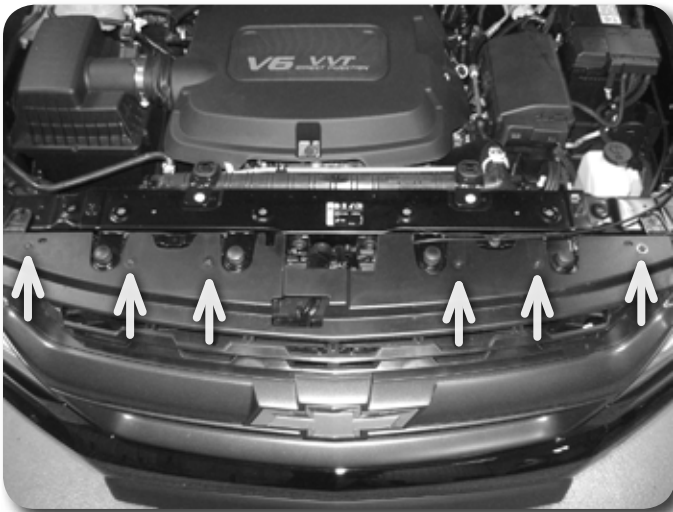

Figure 1
6. Remove the bolts securing the front grill and fascia to the core support. See Figure 1